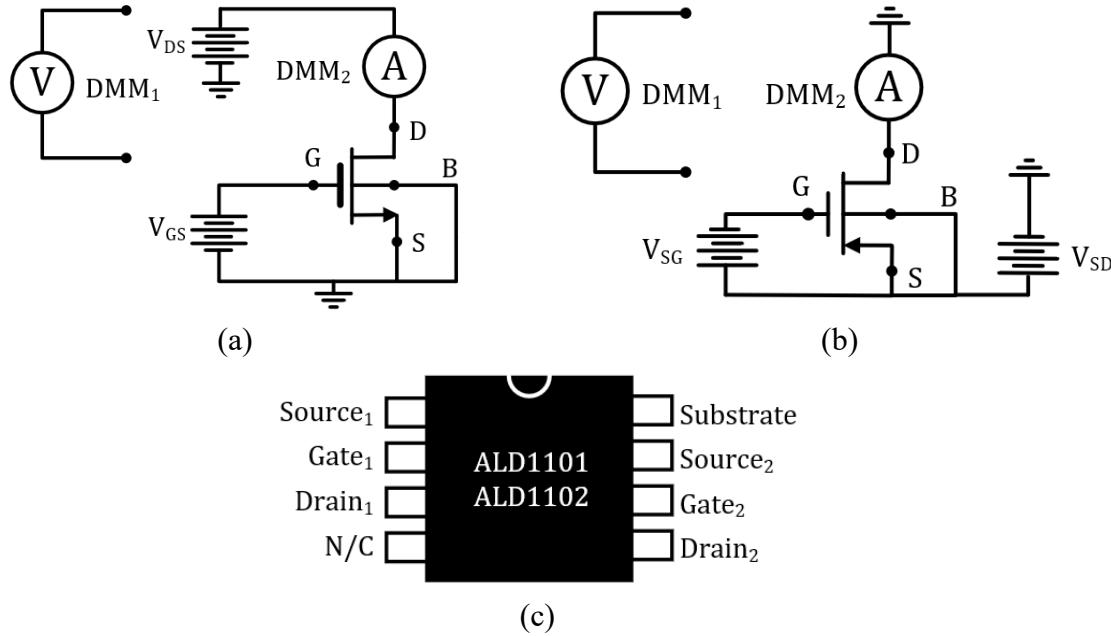

Figure 2: DC measurement circuit schematics of (a) the *n*-MOSFET and (b) *p* -MOSFET. (c) package pins for the *n*- and *p*-channel MOSFET pairs
The test setups for the *n*- and *p*-channel MOSFETs are shown in Figure 2 (a) and (b), respectively. Figure 2 (c) shows the package pins. Please note that the ALD1101 and the ALD1102 ICs contain an *n*-MOS and a *p*-MOS pair, respectively. Each device in the pair has its own source, gate, and drain terminal, and shares a common substrate (Bulk) terminal connected to the substrates of the both the devices. For this experiment, you will need only one of the two devices of the pair.
- 1) Build the test setup for the *n*-MOSFET (ALD1101) on the breadboard (See Figure 2(a)). Set DMM₁ for the DC voltage measurement and DMM₂ for the DC current measurement.
- 5) Repeat steps 1) through 3) for the *p*- MOSFET (ALD1102) with V_{DS} reversed to V_{SD} and V_{GS} reversed to V_{SG} (See Figure 2(b))